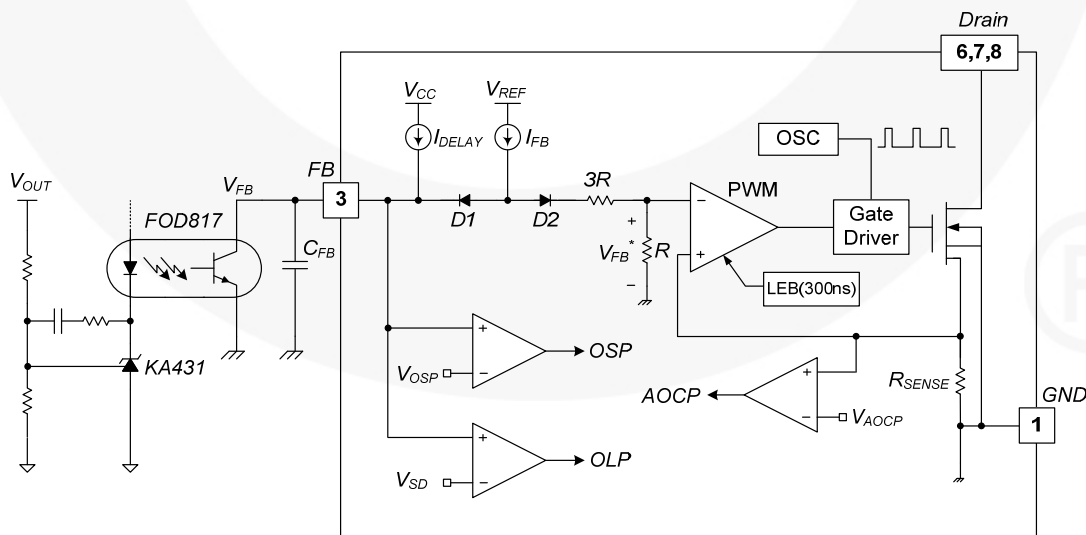

Figure 20. Pulse Width Modulation Circuit
3. Feedback Control: This device employs Current-Mode control, as shown in Figure 20. An opto-coupler (such as the FOD817) and shunt regulator (such as the KA431) are typically used to implement the feedback network. Comparing the feedback voltage with the voltage across the R_{SENSE} resistor makes it possible to control the switching duty cycle. When the reference pin voltage of the shunt regulator exceeds the internal reference voltage of 2.5V, the opto-coupler LED current increases, pulling down the feedback voltage and reducing drain current. This typically occurs when the input voltage is increased or the output load is decreased.
3.1 Pulse-by-Pulse Current Limit: Because Current-Mode control is employed, the peak current through the SenseFET is limited by the inverting input of PWM comparator (V_{FB}^*), as shown in Figure 20. Assuming that the $90\mu A$ current source flows only through the internal resistor ($3R + R \approx 25k\Omega$), the cathode voltage of diode D2 is about 2.8V. Since D1 is blocked when the feedback voltage (V_{FB}) exceeds 2.8V, the maximum voltage of the cathode of D2 is clamped at this voltage. Therefore, the peak value of the current through the SenseFET is limited.